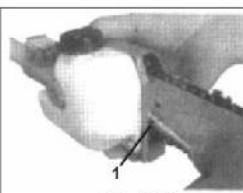

Fig. PP6
3. Lift the nose of the guide bar white turning the chain tensioning screw. See Fig.PP6